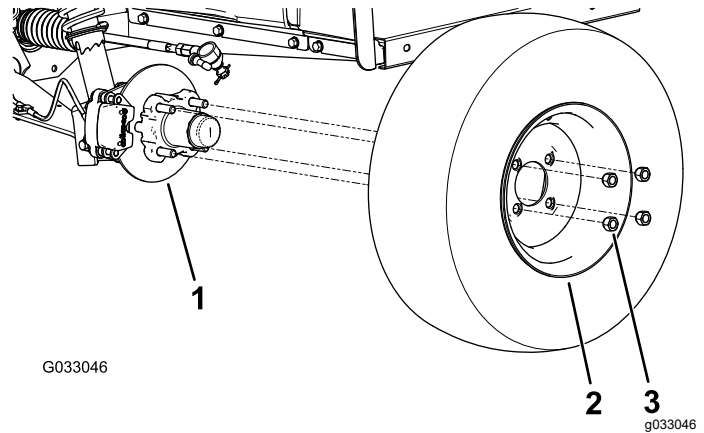

Figure 21
2. Remove the 4 lug nuts that secure the wheel to the hub (Figure 21).
4. Align the holes in the wheel to the studs of the hub and assemble the wheel to the hub with the valve stem outward (Figure 21).
5. Secure the wheel to the hub using the lug nuts (Figure 21).